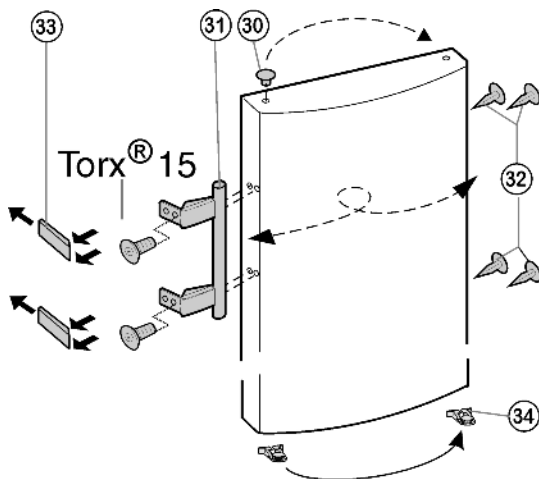

Fig. 7
- ▶ Disengage the spring clip Fig. 7 (34) from the door and transfer it to the new hinge side.
- ▶ Lift the stopper Fig. 7 (30) out of the door bearing bush and transfer it.
- ▶ Detach door handle Fig. 7 (31), stoppers Fig. 7 (32) and pressure plates Fig. 7 (33) plates and transfer to the opposite side